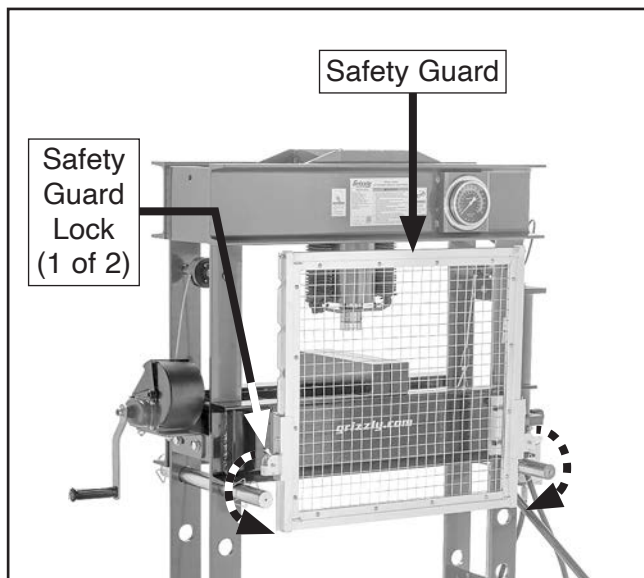

Figure 21. Location of safety guard components.
1. Rotate (2) safety guard locks outboard to release locks (see **Figure 21**).